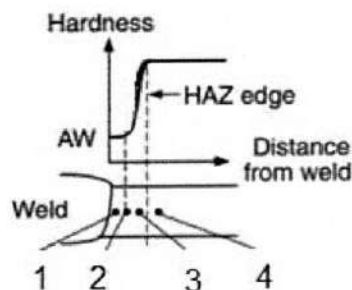

Figure 7(c)
- (c) Suppose you are the senior quality control engineer in a welding company. The company always uses stabilized austenitic stainless steel 321 and 347, to avoid any kind of weld decay. But they are still observing some corrosion attack in the narrow region immediately adjacent to the weld metal. Can you identify why this corrosion attack may be happening? Can you propose two or three solutions that they can try to remedy this? (15)
7. (a) What is the reason behind the weld decay in austenitic stainless steels? Describe two remedies for avoiding such decay. (10)
- (b) "High-carbon martensite can form in the heat affected zone of an as-cast low-carbon steel during welding" – explain how the martensite can form in this case using Fe-C phase diagram. (10)
- (c) You are in charge of supervising all the welding process in a plant. One of your technicians reported to you that the welding of a precipitation-hard Aluminium alloy sees hardness loss in the heat affected zone and showed you the measured hardness plot below [Figure 7(c)]. He does not know why. (15)